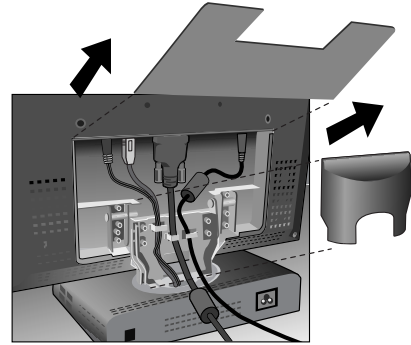

Figure R.1
1. Remove the back cover and the cable cover (Figure R.1).